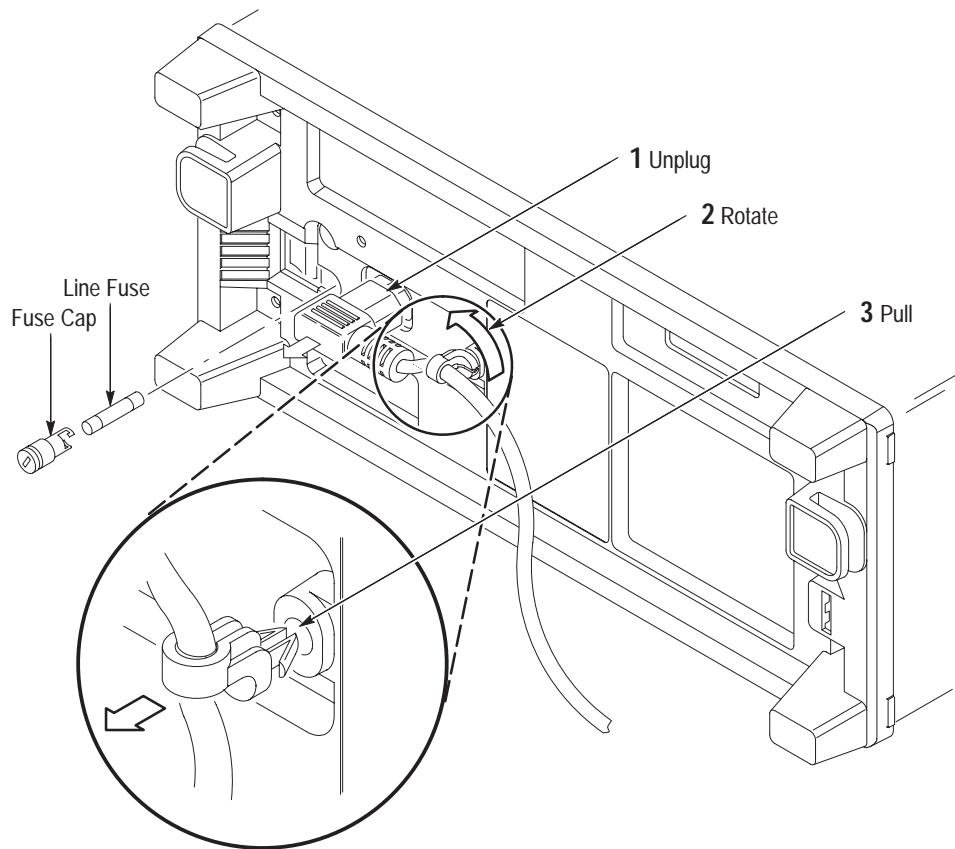

Figure 6-5: Line fuse and line cord removal
- 3. Remove line fuse:** Find the fuse cap on the rear panel. (See Figure 6-5.) Now, remove the fuse cap by turning it counterclockwise using a flat-bladed screwdriver, and remove the line fuse. Reverse procedure to reinstall.
- 4. Remove line cord:** Find the line cord on the rear cover. (See Figure 6-5.) Now, remove the line-cord retaining clamp by first unplugging the line cord from its receptacle. Next, grasp both the line cord and the retaining clamp and rotate it 90 degrees counterclockwise. Pull the line cord and clamp away to complete the removal. Reverse procedure to reinstall.